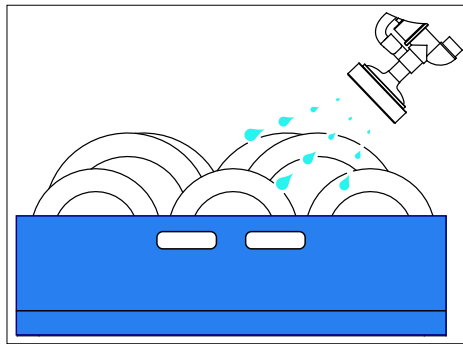

Fig. 3
- Wares should be scrapped and rinsed to remove large food particles and debris (Fig. 3).